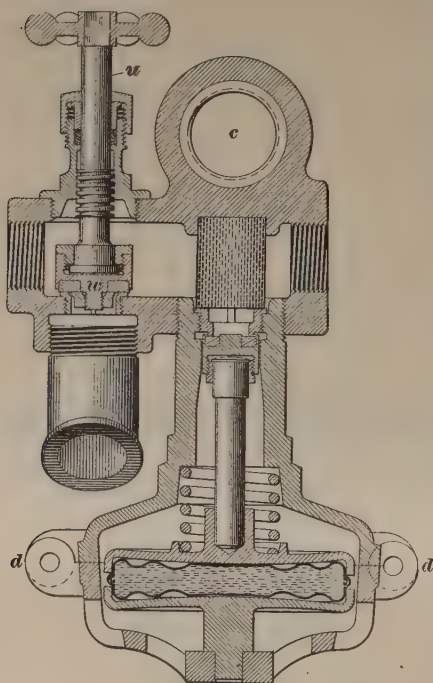

FIG. 20
26. Fig. 20 shows the trap used in connection with the heating jacket *J*, Fig. 18. It is arranged so as to have a hot metallic connection